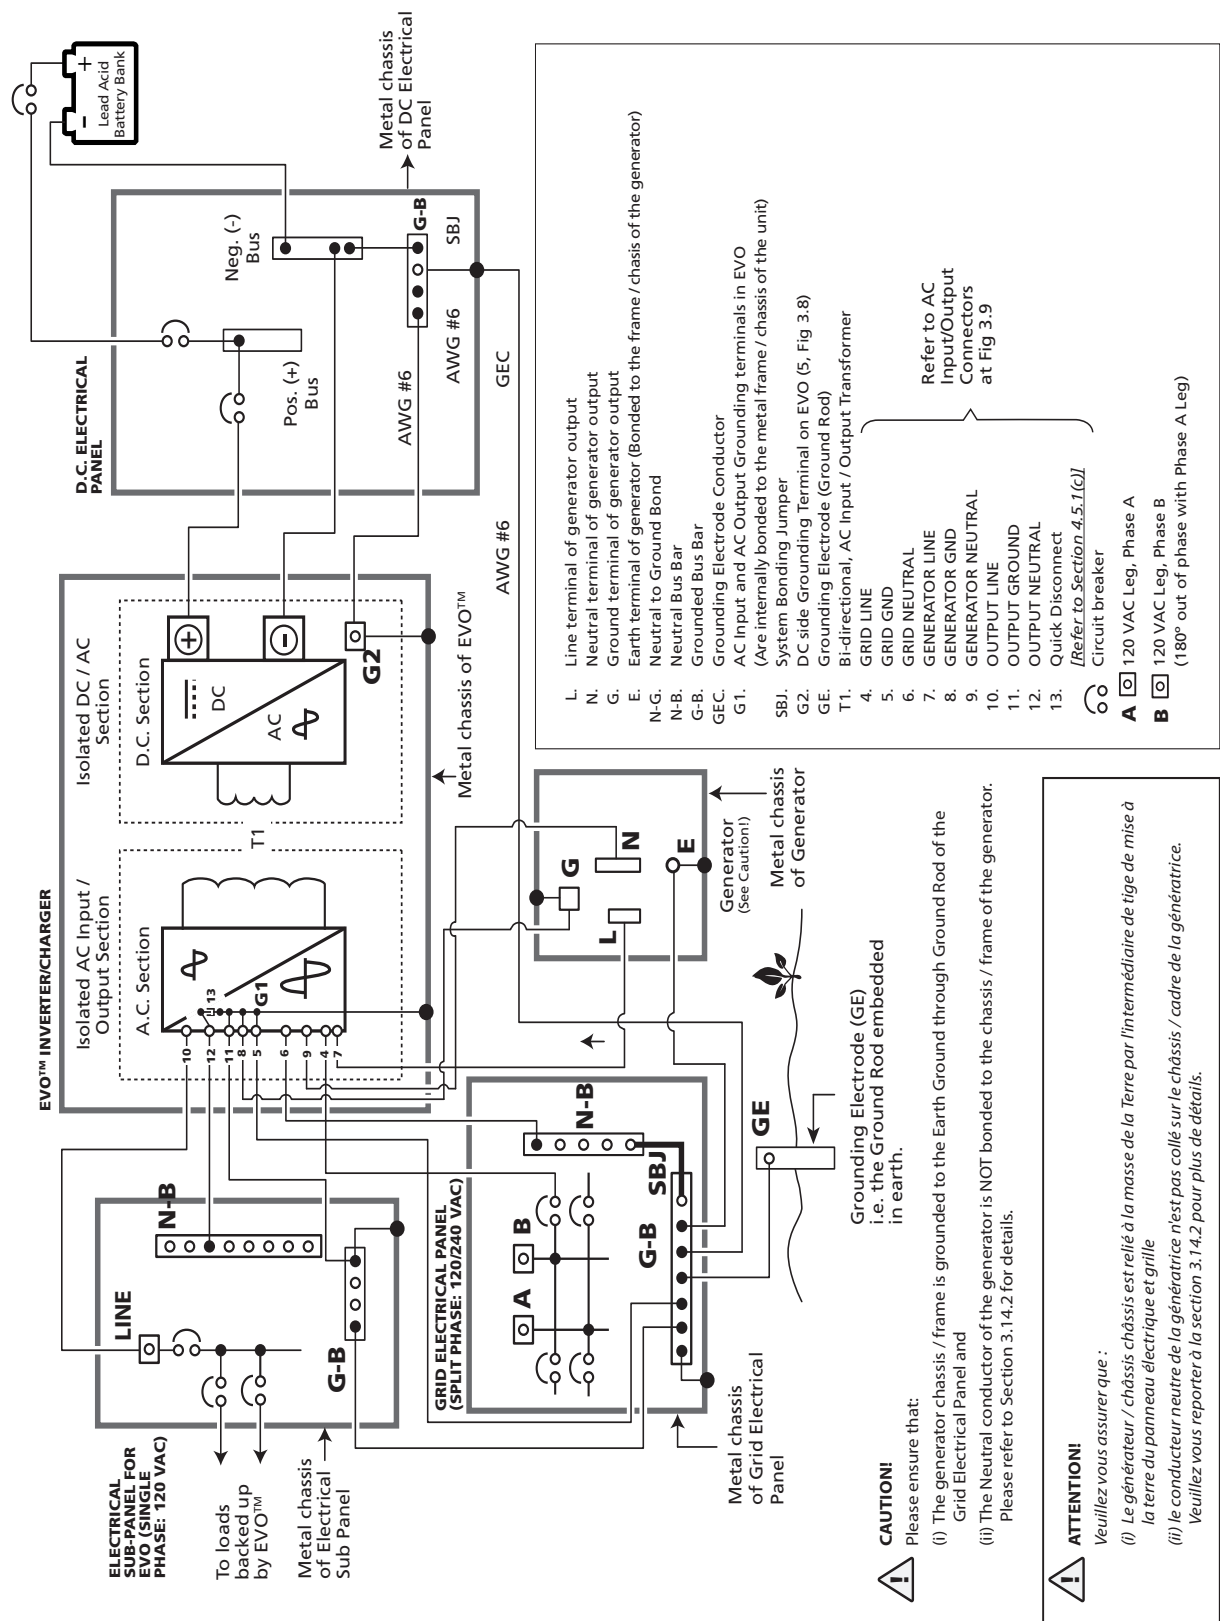

Fig 3.12 Grounding Arrangement for Shore Based Installation - Both Grid and Generator Connected to EVO®
Schematic at Fig. 3.12 illustrates the grounding arrangement of EVO® Series for shore based Installation.
When using a generator and Grid *simultaneously* as shown in Fig 3.12, please ensure that (i) the Neutral of the generator is NOT bonded to the metal frame of the generator and (ii) the metal frame of the generator is bonded to Earth Ground through the Grounding Electrode (GE) i.e. the Ground Rod.
3.13 DC SIDE GROUNDING (SEE FIG. 3.12)
As described at Section 3.14, the metal frame / chassis of the EVO® (Fig 3.12, G1) is bonded to the Earth Ground "GE" (Ground Rod) for AC side grounding. It may be argued that if the metal frame / chassis of EVO® is already bonded to Main Earth Ground "GE" for AC side grounding, why it is necessary to provide additional DC side grounding wiring? (Wiring that bonds DC Grounding Terminals "G2", "G-B" and GE in Fig 3.12). If separate thicker grounding wire of the same size as the battery cable was not provided for the DC side grounding and there was a ground fault in the battery circuit, very large DC fault current from Battery+ would flow through the smaller size AC grounding wires to the Battery Negative through Earth Ground. These smaller size AC side grounding wires would be damaged due to very high DC side fault current (150A to 400A depending on the Model of the EVO® being used).
A DC Distribution Panel, as shown in Fig. 3.12, is normally provided to connect the batteries and distribute DC power to the inverter and to the other DC loads.
Please refer to Fig 3.12 which shows typical grounding arrangement for shore based installation where both the Grid and Generator are simultaneously connected to the EVO®
As explained at Section 3.14.1 above and shown in Figs 3.12 and 3.14, the Neutral Terminals of Grid Input, Generator Input and AC Output are internally bonded to the metal chassis of the EVO® and the metal chassis of
When connecting both the generator and Grid simultaneously to the EVO® for shore based installation (*See Figs 3.12 and 3.14*), please ensure that (i) the generator chassis / frame is grounded to the Earth Ground through Ground Rod of the Grid Electrical Panel and (ii) the Neutral conductor of the generator is **NOT** bonded to the chassis / frame of the generator. If the bond between the Neutral conductor of the generator and it's chassis / frame is not removed, GFCI protected breaker supplying Grid power to the EVO® will trip due to splitting of some return Neutral current through the path: Common Neutral → Neutral of Generator → Neutral to chassis / frame bond in the Generator → Neutral to Ground bond in Grid Electrical Panel → Neutral of Grid Electrical Panel (***current returning through this path will not return through the GFCI protected Grid breaker and the GFCI will trip the breaker***).
*Lors de la connexion simultanée du générateur et du réseau à l'EVO® pour une installation à terre (voir les figures 3.12 et 3.14), veuillez vous assurer que (i) le générateur / châssis est relié à la masse de la Terre par l'intermédiaire de tige de mise à la terre de la grille panneau électrique et (ii) le conducteur neutre de la génératrice n'est pas collé sur le châssis / cadre de la génératrice. Si la liaison entre le conducteur neutre de l'alternateur et c'est châssis / trame n'est pas enlevé, protégée GFCI breaker fournissant l'alimentation de la grille de l'EVO® s voyage en raison d'un fractionnement de revenir par le chemin courant: Neutre commun → Générateur de Point Mort pour châssis / liaison châssis dans le générateur → point mort à la masse du panneau électrique grille → Point Mort du panneau électrique de la grille actuelle (***retour par ce chemin ne sera pas de retour à travers la grille de protection GFCI disjoncteur et le disjoncteur se déclenche le disjoncteur***).*